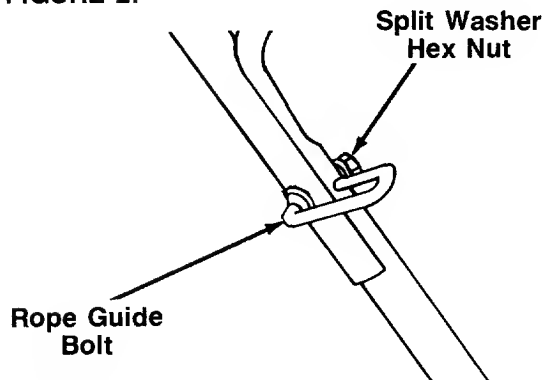

FIGURE 3.
- ← 3. Insert the rope guide bolt through the right hand side of upper and lower handle. See figure 3. Secure with split washer and hex nut, finger tight only.